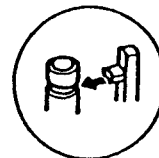

Figure 1-64.
1. Use care not to deform the parts hooked to the slow brake shaft cap, take-up loading gear, and supply loading gear as shown in Figure 1-64.